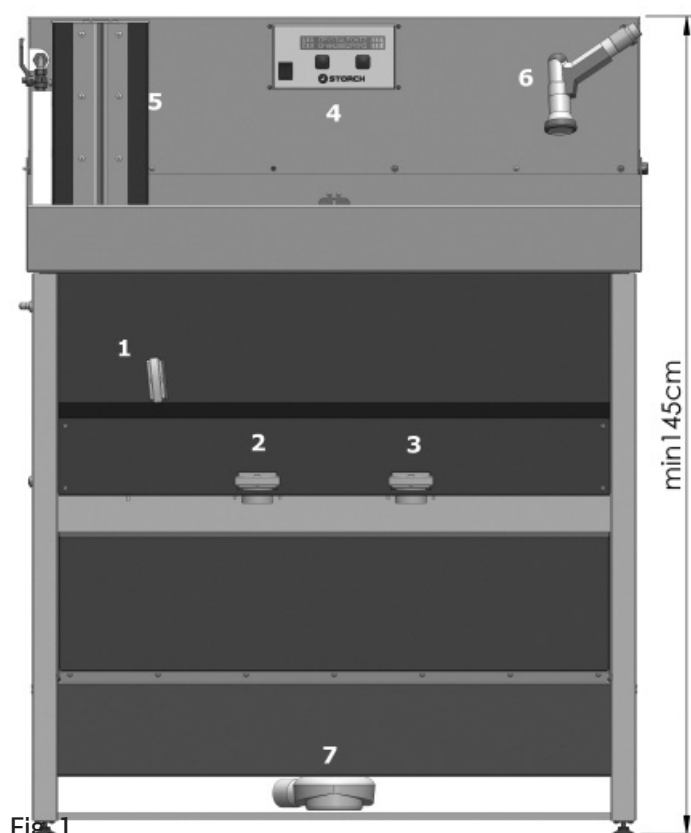

Fig. 1
After the device has been positioned, the supplied drain (7) Fig. 1, 2 is connected to the on-site drainpipe. Height of the on-site drain max. 100 mm
- Clean tools/containers with the supplied hand shower head (6) Fig. 1
- Clean rollers in the TurboWash (scope of delivery in ColorFree top Set) (5) Fig. 1, 2, 5, 6
- Switch on the system at the on/off switch of the control (4) Fig. 1
This can occur if the water level in the reaction tank is too low. During the flocculation process, air is mixed in, which ensures that the flakes float. In this situation, do not open the fresh water outlet (1) Fig.1 after flocculation, but instead confirm the „Water drained“ action and open the drain (2) Fig.1 or (3) Fig.1, depending on which one is displayed by the control.